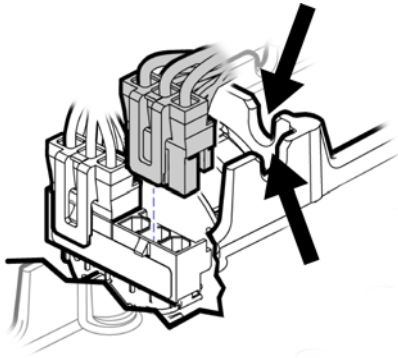

Figure 11-8: Place Wires in Abrasion Protection Sleeves
8. Locate abrasion protection sleeves and position so wires are protected as they pass through notches in chassis. See Figure 11-8.